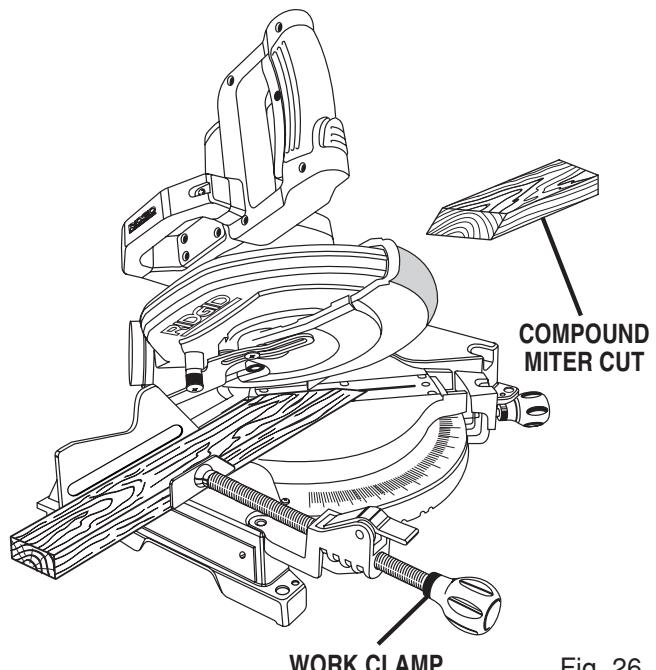

Fig. 26
- Slowly lower the blade into and through the workpiece. See *Figure 26*.
- Grasp the stock firmly with one hand and secure it against the fence. Use the optional work clamp or a C-clamp to secure the workpiece when possible. See *Figure 26*.
- Slowly lower the blade into and through the workpiece. See *Figures 26 and 27*.